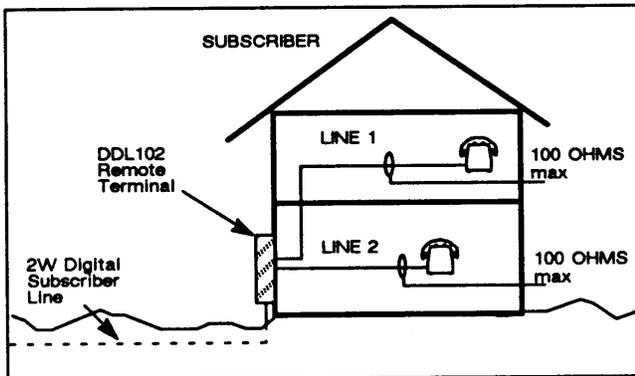

Figure 1. Typical DDL102 DuaLine Plus RT Installation
The Wescom® DDL102 DuaLine Plus™ Remote Terminal (RT) is an enclosure that can be mounted on an outside or inside wall. The RT contains circuitry to derive two Plain Old Telephone Service (POTS) lines from a Digital Subscriber Line (DSL). See Figure 1. The RT provides protectors for the DSL, and terminals for connecting the DSL and subscriber lines. The RT provides separate telephone company and customer compartments. Modular jacks are provided to isolate the subscriber wiring. The RT is completely powered from the DDL Central Office Terminal requiring no batteries or local power. For the Wescom DuaLine Line System Overview, see Section DDL-001-100.